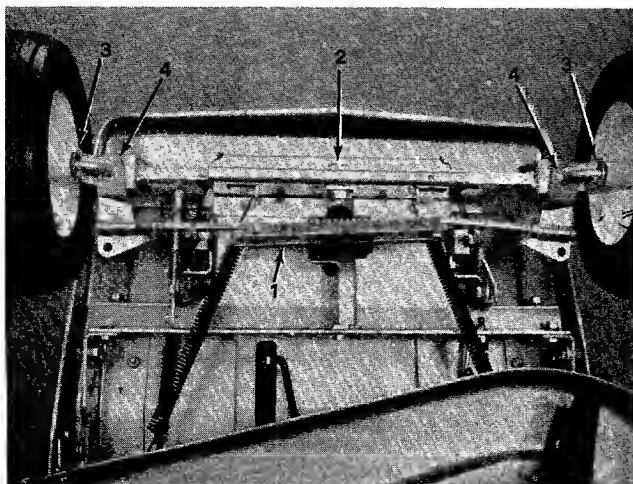

Figure 19
Rack and Pinion 1—Lubricate with multi-purpose automotive grease once a year. (See figure 19.)
Front Pivot Bolt 2—Oil with SAE 30 oil once a year. (See figure 19.)
Wheel Bearings 3—Oil with SAE 30 oil once a year. (See figures 19 and 20.)
King Pin 4—Oil with SAE 30 oil once a year. (See figure 19.)
5. Lubricate all lubrication points indicated in figures 19 and 20, then wipe the entire machine with an oiled rag in order to protect the surfaces.